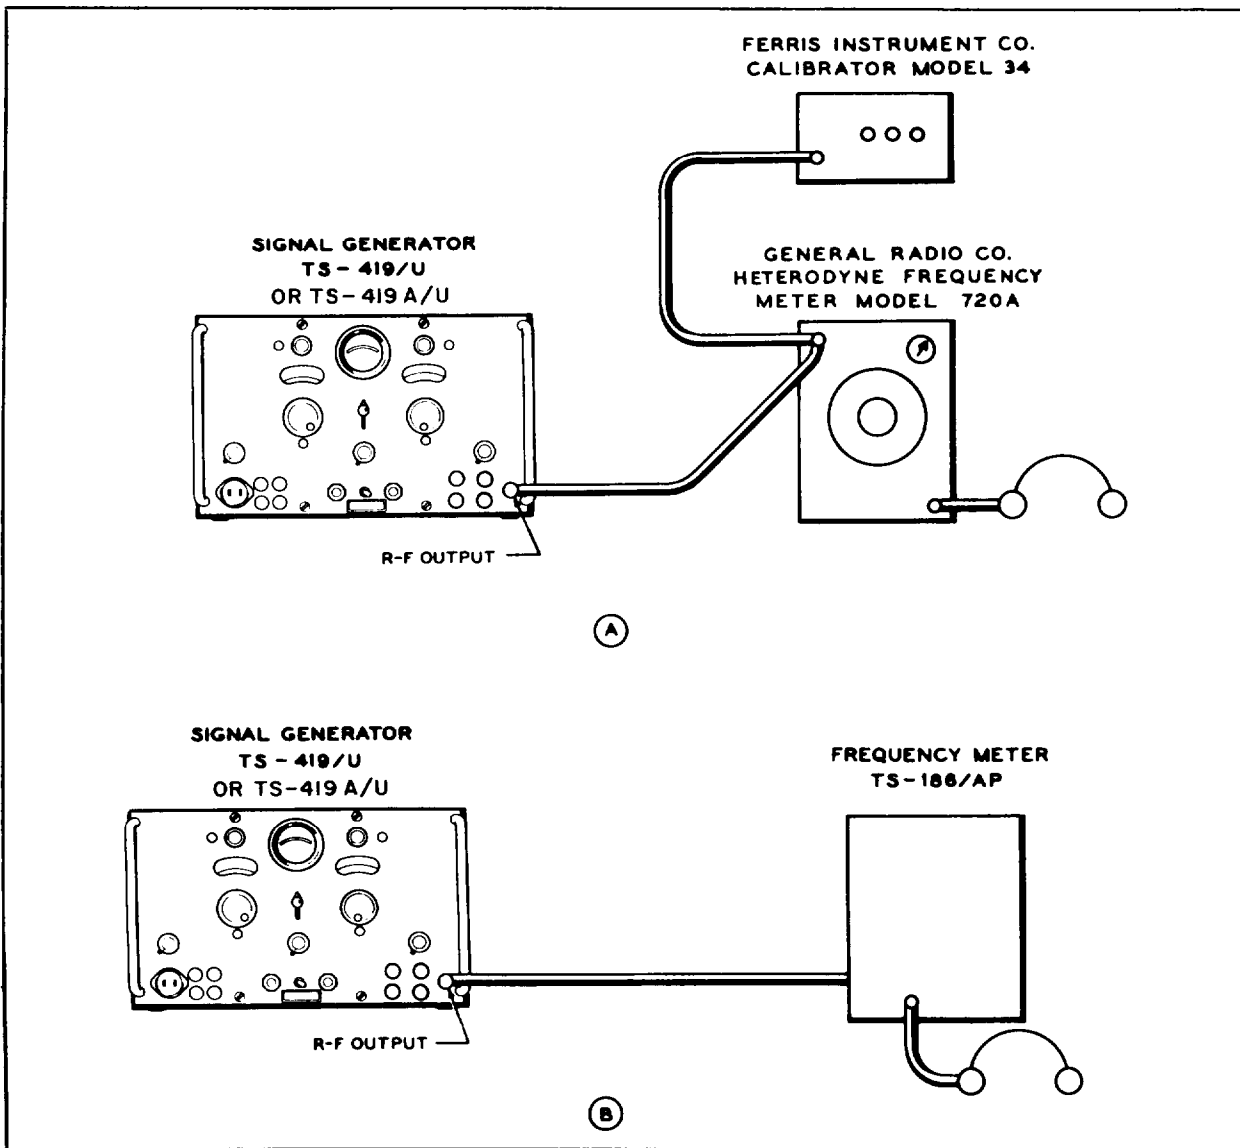

Figure 4-1. Test Connection Diagram for Measurement of Radio Frequency
(1) Connect Signal Generator TS-419/U and required test equipment as shown in part A or B of figure 4-1. The method of connection will depend on the test equipment in use.
(2) Turn on Signal Generator TS419/U and allow